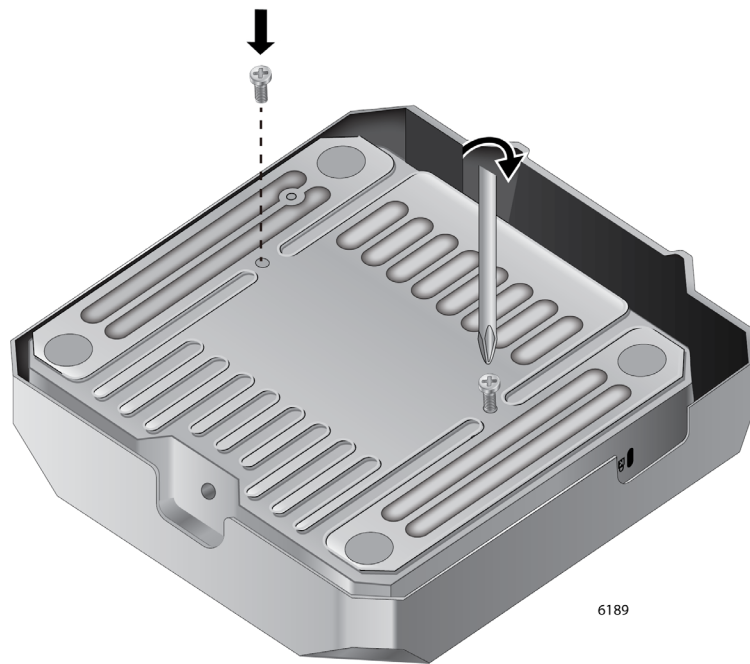

Figure 8. Attaching the Bracket Screws to the Access Point
2. Install the two screws (provided) fully into the bottom panel of the access point. See Figure 8.